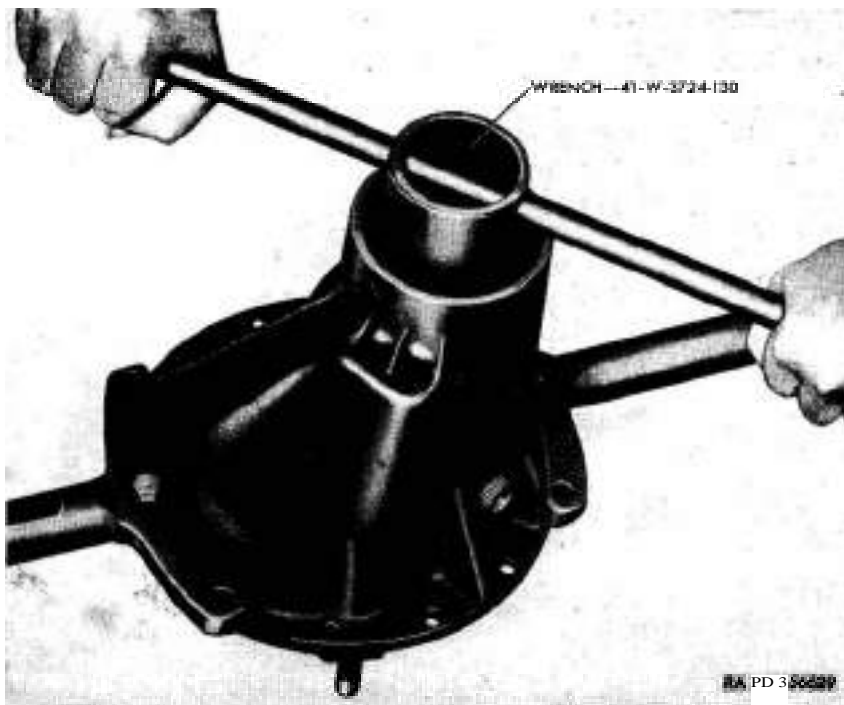

Figure 80. Removing drive pinion front bearing cup retaining nut.
- (1) Remove drive gear thrust screw pad (P).
- (2) Remove drive pinion (XX) and drive pinion front and rear bearing cones (R and YY) from carrier as an assembly.
- (3) Position carrier in stand (oil seal end up) and remove 5/16-18NC x $\frac{3}{4}$ set screw (J) , which is provided as a lock for the drive pinion front bearing cup retaining nut (E).
- (4) Remove drive pinion front bearing cup retaining nut with wrench 41-W-3724-130 (*fig. 80*) and drive pinion front bearing outer cone (G).
- (5) Remove drive pinion front and rear bearing cups (H and V) from carrier with a brass drift and hammer. Openings are provided in the carrier casting for the brass drift.
- (6) Break weld at drive gear thrust screw check nut (AG) with a sharp chisel. Remove drive gear thrust screw (AH) and nut.
- (3) Install drive pinion front bearing cup retaining nut (E) and tighten nut with wrench 41-W-3724-130 (fig. 80).
- (4) Install 5/16-18NC x $\frac{3}{8}$ set screw (J) in oil seal end of drive pinion carrier to prevent loosening of the retaining nut.
d. Install Drive Pinion Rear Bearing Cone. Install drive pinion rear bearing cone (YY) on drive pinion (XX) with an arbor press. Make certain the cone is firmly seated against pinion.